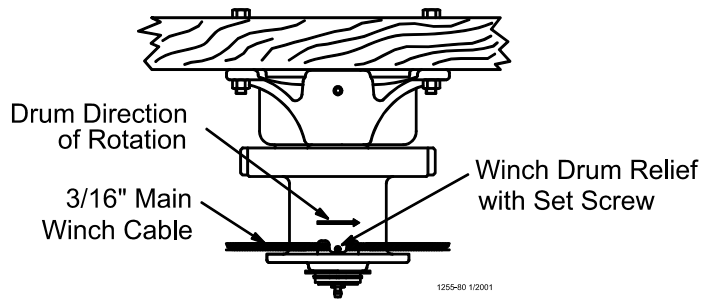

Figure 11. Attaching the Cable to the Power Winch
- Route the cable through the winch drum relief located near the bottom of the drum. Tighten the set screw to anchor the cable to the drum. See **Figure 11**.